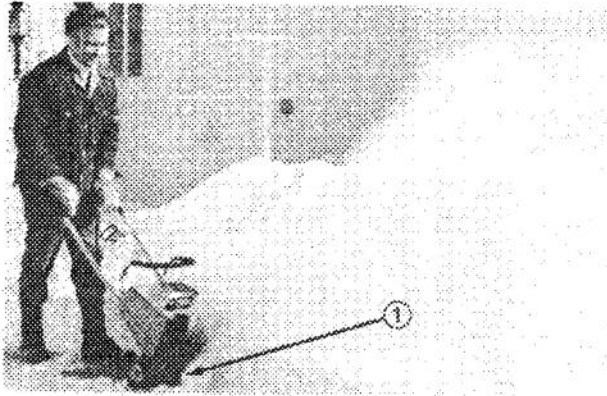

Figure 11
4. For most efficient snow throwing, keep vanes vertical, discharge snow downwind, and overlap each swath slightly (Fig. 11).